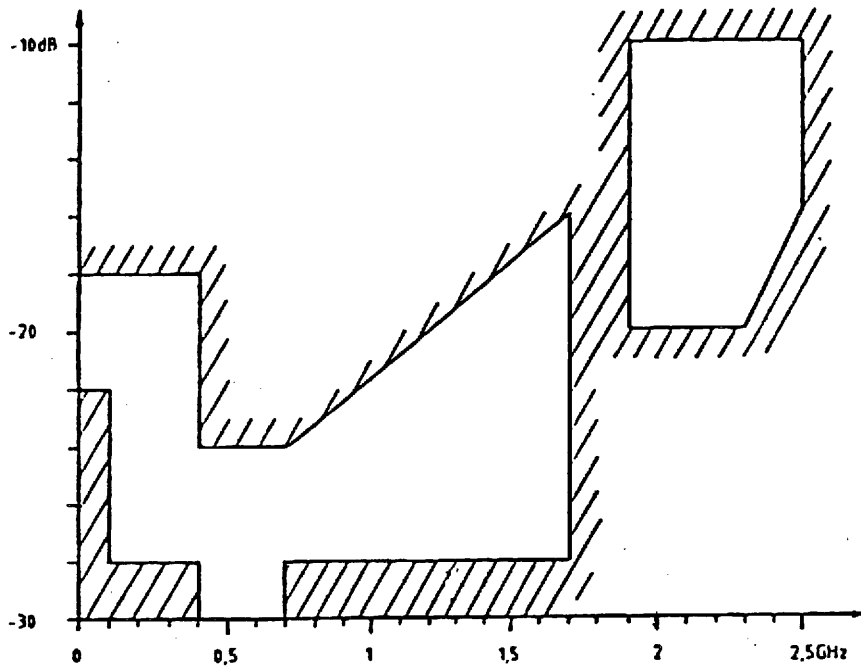

Fig. 5-2 Level tolerance chart: output coupling for synchronization with bandpass filter switched off
--> Connect detector to output X364; level as in Fig. 5-2.
--> Apply +15 V across 1.27 k Ω (at X364); level as in Fig. 5-2.
For measuring the harmonic content, use of a test setup according to Fig. 5-2 is recommended which, except for the attenuator pad d, is identical for the ranges 0.1 to 20 MHz and 0.4 to 2500 MHz.